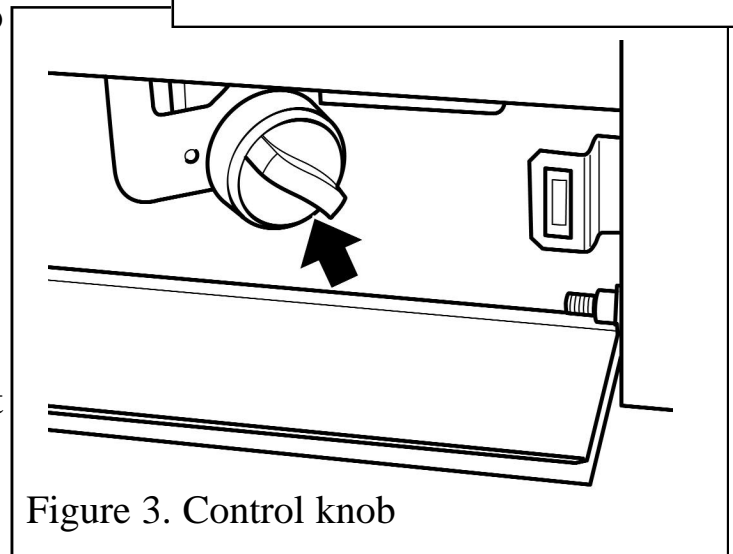

Figure 3. Control knob
- Depress the control knob and turn anticlockwise towards the PILOT/IGN position (See figure 3). A spark should be generated at the pilot while turning. The spark should ignite the pilot. The pilot flame can be seen at the rear left side of the burner. Keep the button at the PILOT/IGN position for a further ten seconds. This will prevent the flame sensing device from shutting off the gas while its probe warms up as explained previously.